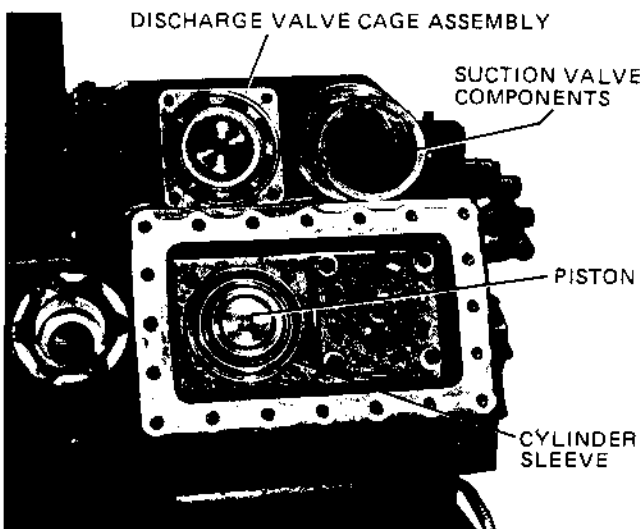

FIG. 16 — DISCHARGE & SUCTION VALVES REMOVED
2. Remove the four cap screws that hold the discharge valve cage assembly to the housing and lift this assembly out of the compressor. The inner discharge valve plate, the discharge valve, and the discharge valve springs will come out with the cage as an assembly. (See Fig. 16.)